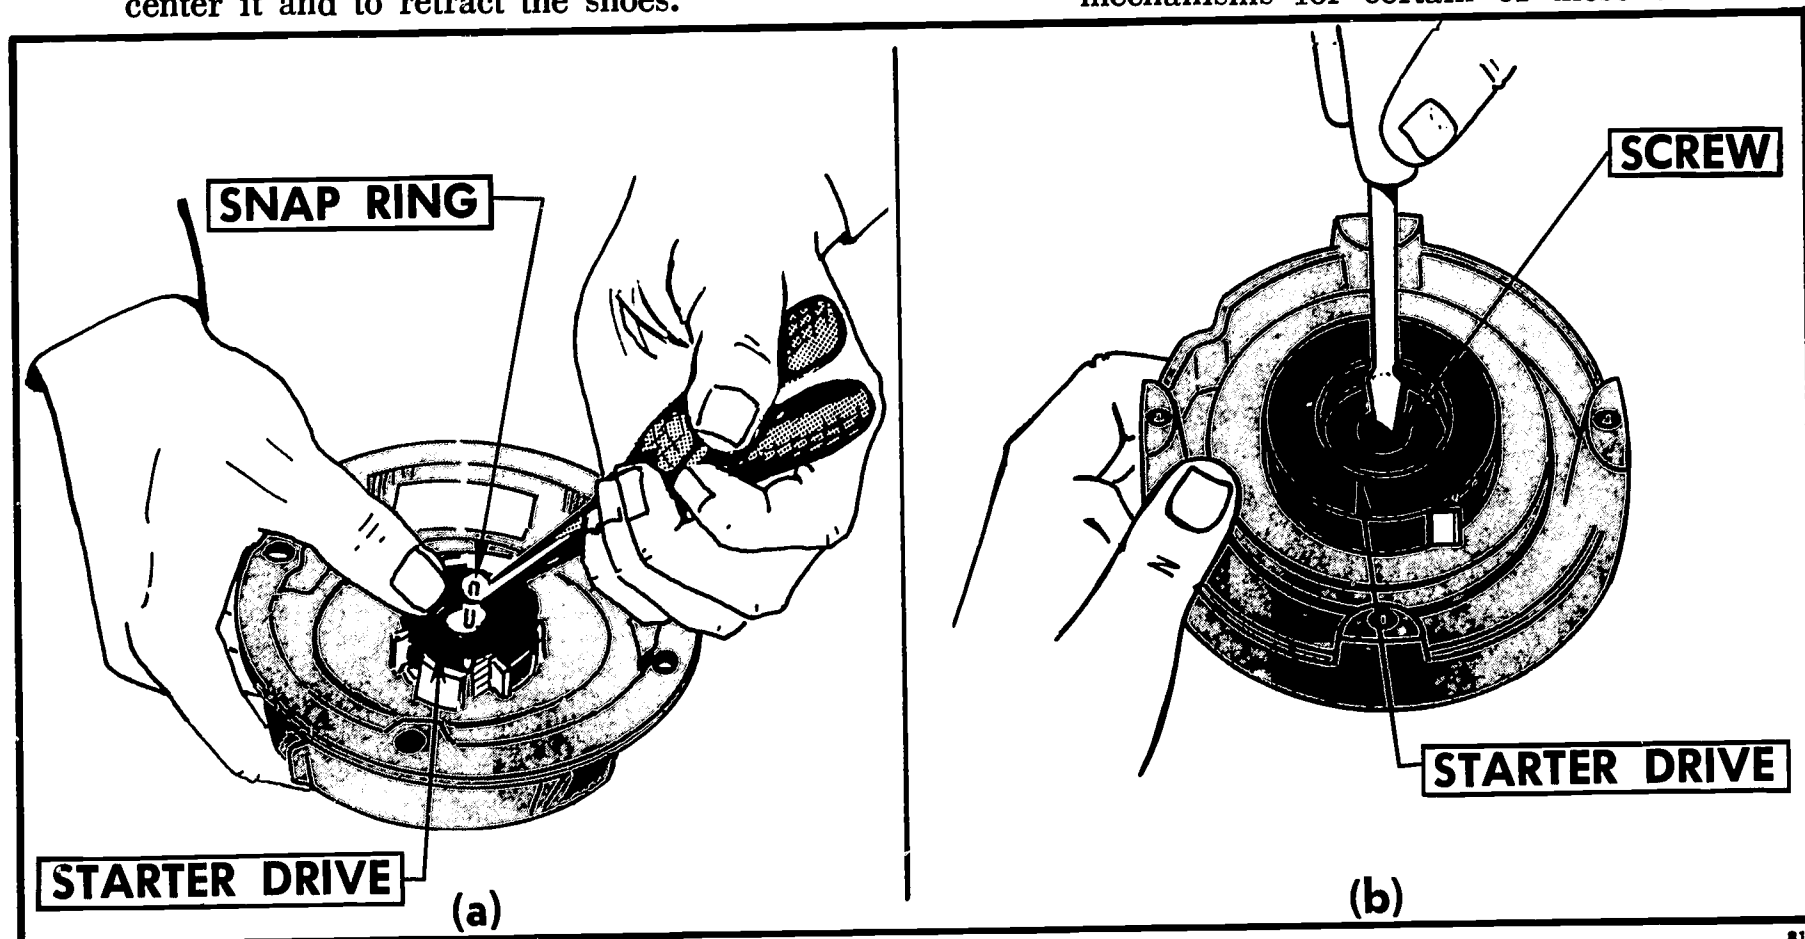

FIGURE 32. Removing the drive mechanism. (a) Some drives are held by a snap ring. (b) Some are held by a screw.
3. *Remove the drive mechanism (Figure 32).*